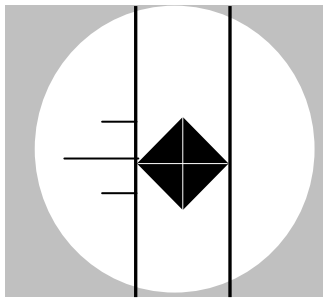

Figure 7-4
4. Rotate the right drum to move the right graduated line of the eyepiece and make it tangent to the right vertex angle of the indentation. Press the "Encoder button", enter and save the length of the indentation's horizontal diagonal D1 as shown in **Figure 7-4**.